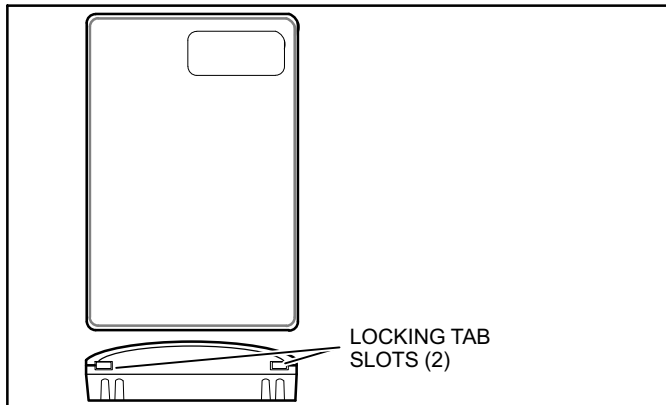

Figure 1. Cover Removal
1. Insert a thin, flat blade screwdriver into each of the two slots at the bottom of the module to release the two locking tabs (see figure 1).